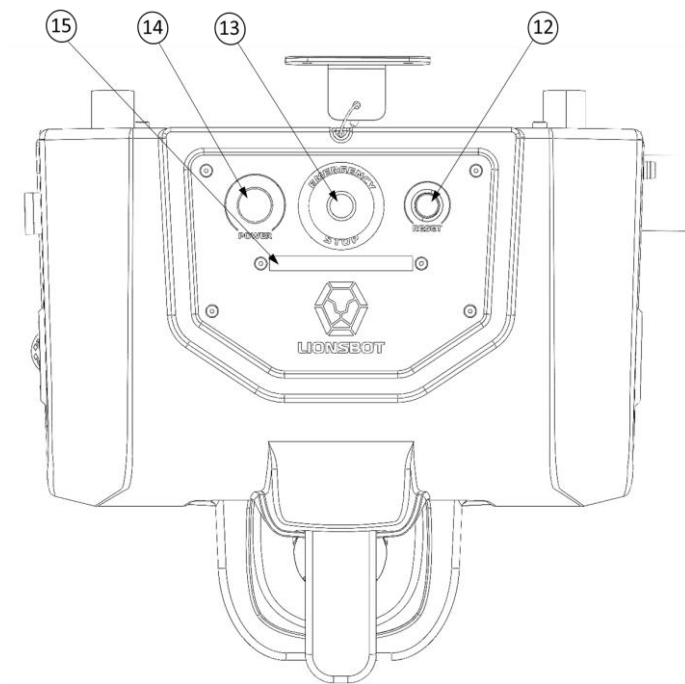

FIGURE 1-6
2. **Emergency Stop (13)** (See Fig. 1-6): The emergency stop feature is intended for use exclusively during critical situations. Activating the emergency stop will instantly halt power supply to the charger and valves. Additionally, it will abruptly terminate the docking refuel sequence between the robot and the station.